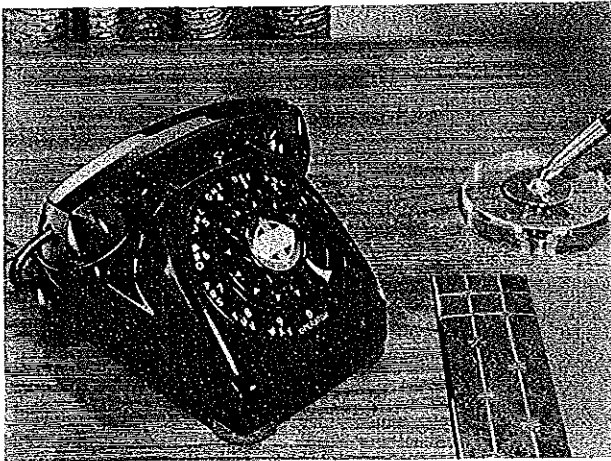

Figure 4. Type 80 Monophone with push button.
**2.3 Telephones**—Conventional dial telephones are employed at all stations restricted from transferring calls. For stations having the transfer facility, each telephone is equipped with a push button (Figure 4). Three wires are required to connect each push-button instrument to the switchboard, while two wires are required to connect each regular telephone (see § 3.6).